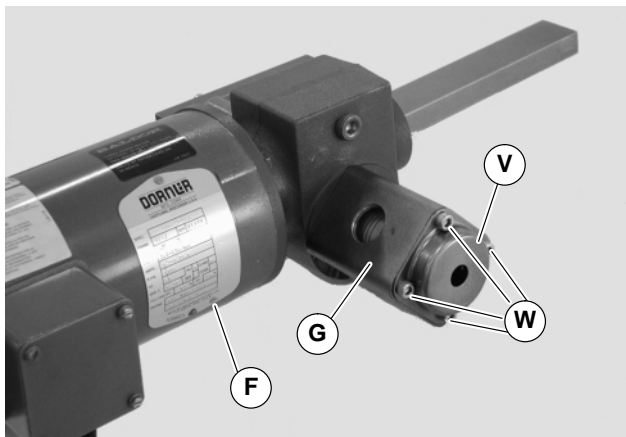

Figure 17
- Attach shaft cover (V of Figure 17) and guard tube (G) with screws (W). Tighten screws (W) to 5.6Nm.